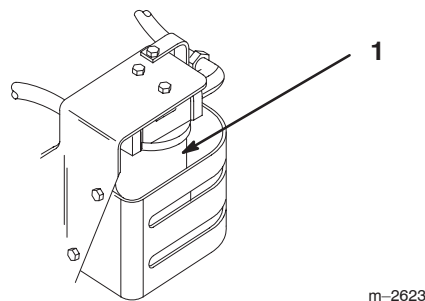

Figure 30
2. Place drain pan under filter, remove the old filter and wipe the filter adapter gasket surface (Fig. 30).